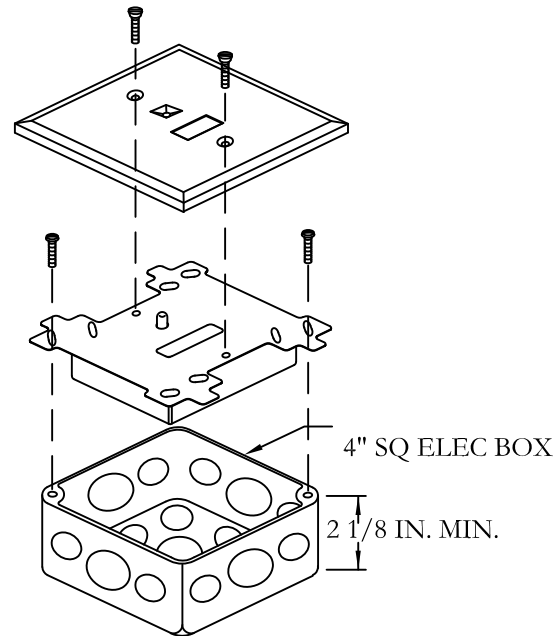

FIGURE 2
Mount short circuit isolators as shown in Figure 2 of these instructions.
2. Secure the module to an approved electrical box (supplied by installer), as shown in Fig.2